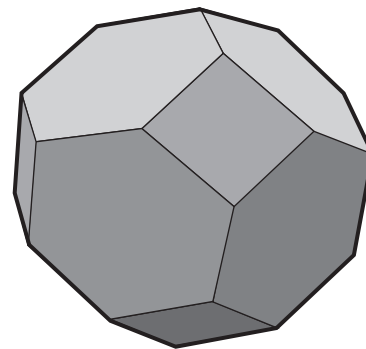

Figure 3 A sodalite cage
- 5 These rings can be joined together by means of more Si–O–Si linkages. Make one of the resulting structures by cutting out Shape 1 on the sheet of card model shapes and sticking it together. This is called a *sodalite cage* (Figure 3).